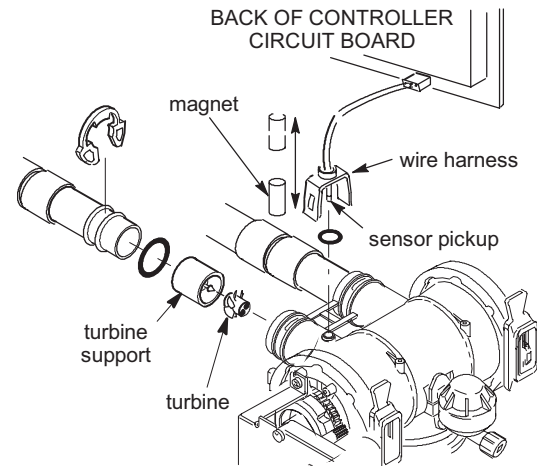

FIG. 158
6. If the display reading does not change with the faucet open, pull the wire harness from the valve outlet port (See Figure 158).